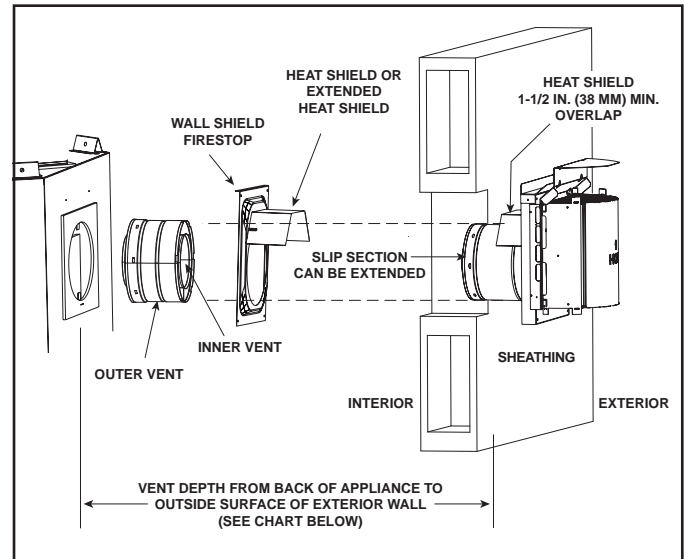

Figure 7.15 Venting Through the Wall - Generic Appliance Shown
- **DO NOT** remove the heat shields attached to the wall shield firestop and the horizontal termination cap (shown in Figure 7.15).
There are two sections of the heat shield. One section is factory-attached to the wall shield firestop. The other section is factory-attached to the cap. See Figure 7.15.